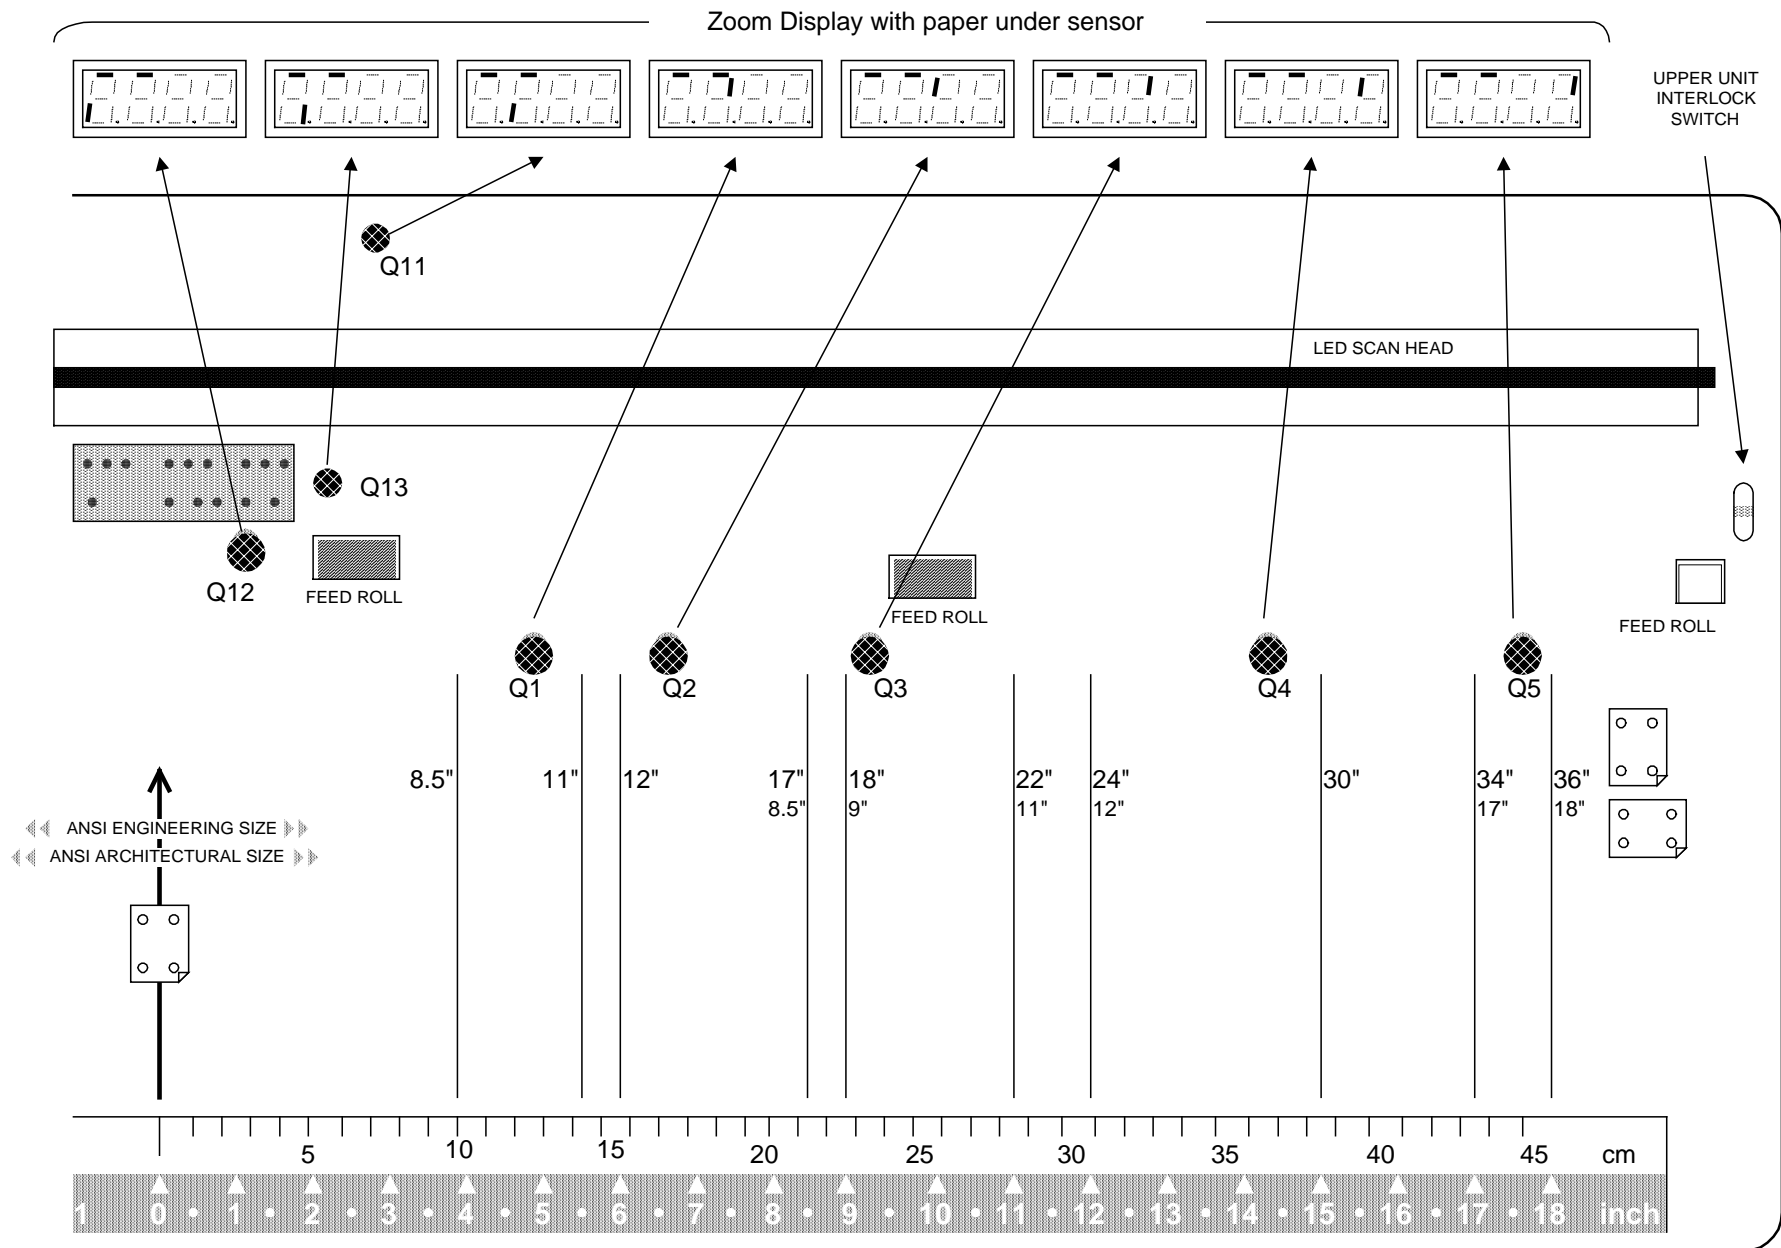

**Figure 1. Upper Unit Closed**
6. With no paper under any sensor, and the Upper Unit in the closed position, the Zoom display should appear as shown in Figure 1. If the Zoom display is blank, refer to BSD 4.1 and check the circuit of the Upper Unit Interlock Switch.